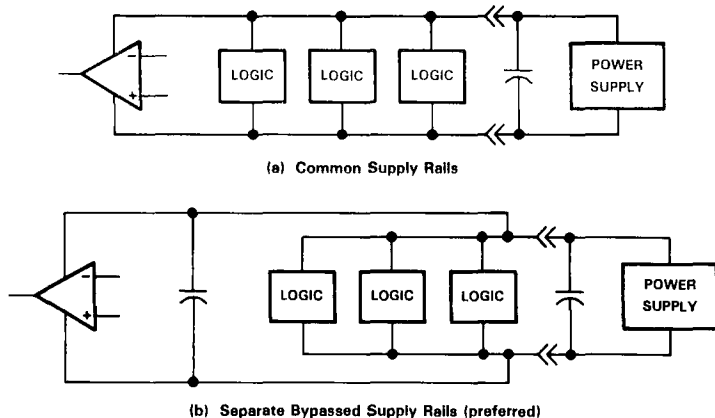

FIGURE 104. COMMON VERSUS SEPARATE SUPPLY RAILS
1. Power the linear devices from separate bypassed supply lines (see Figure 104); otherwise the linear device supply rails can fluctuate due to voltage drops caused by high switching currents in the digital logic.